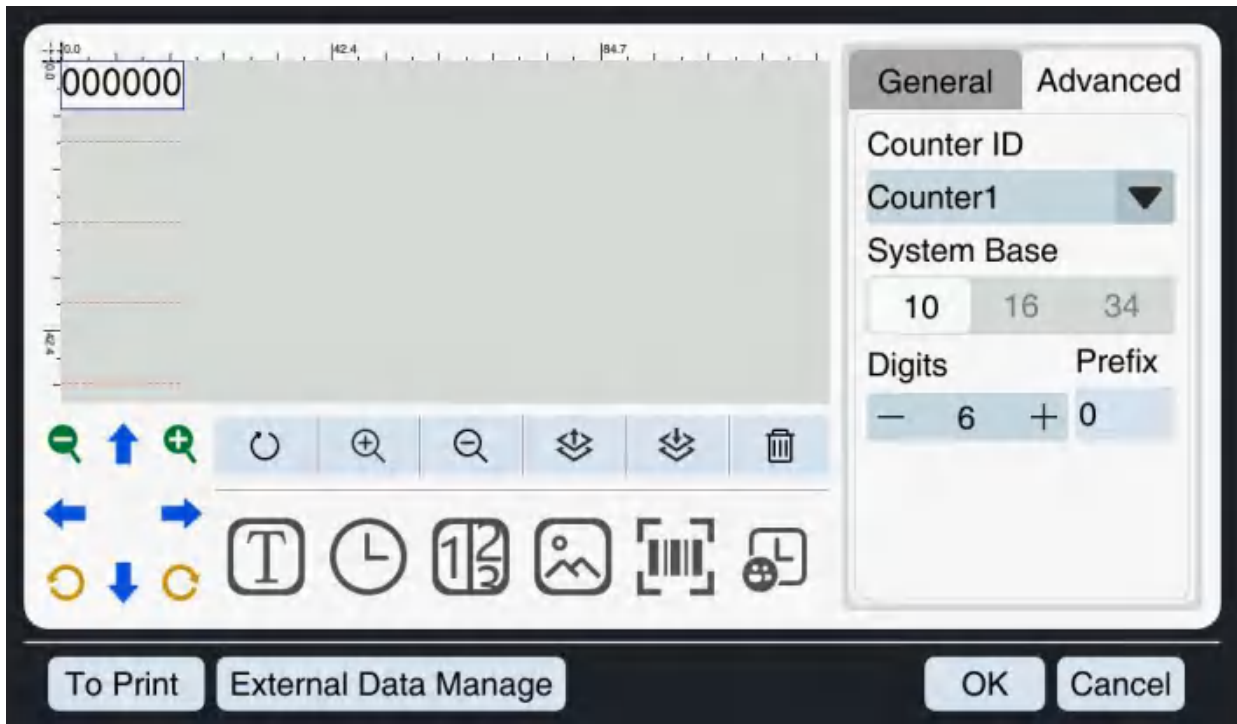

Figure 5-8 Serial Number Editing Interface
1.If you need to print the variable order number, that is, the counted content in the printed information is automatically updated, without human intervention, please click the  button in the "information button area" , then a default order number entry will appear in the "Information Editing Area". As shown in Figures 5-8.